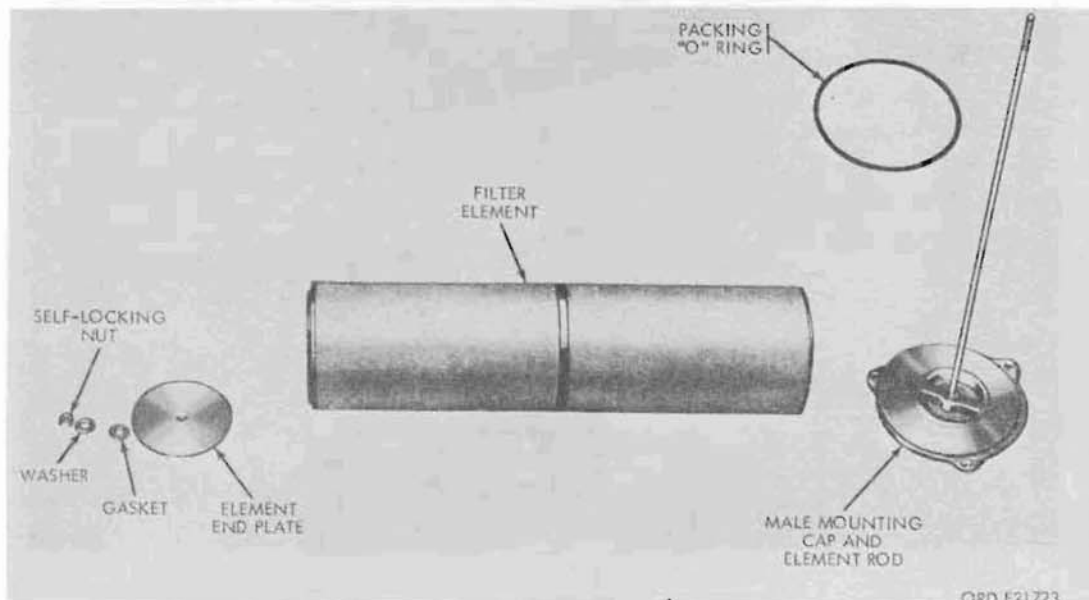

Figure 288. Filter element parts
- (1) Install a new filter element on center rod and male mounting cap. Install end plate, gasket and washer and nut (fig. 288). Tighten huglock nut to 5 pound-feet torque.